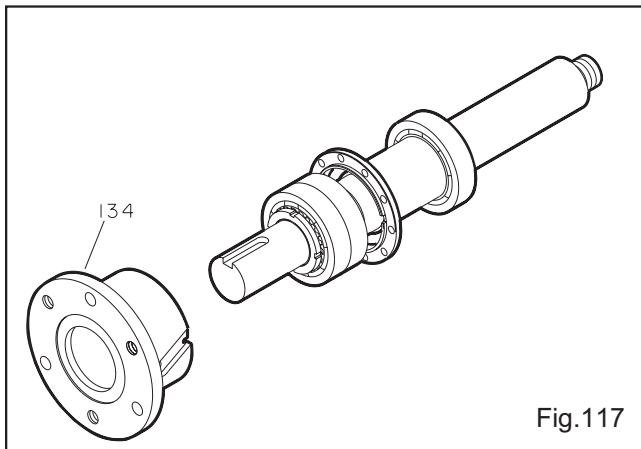

Fig.117
10. Install bearing housing (134) onto shaft/bearing assembly (Fig. 117).